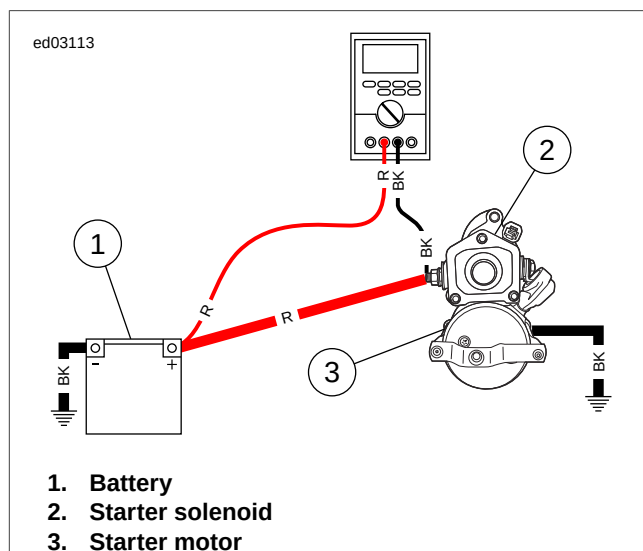

Figure 1-42. To Starter Solenoid Battery Terminal
3. See Figure 1-42. Move the black meter lead to the battery side post on the starter solenoid. Crank the starter.